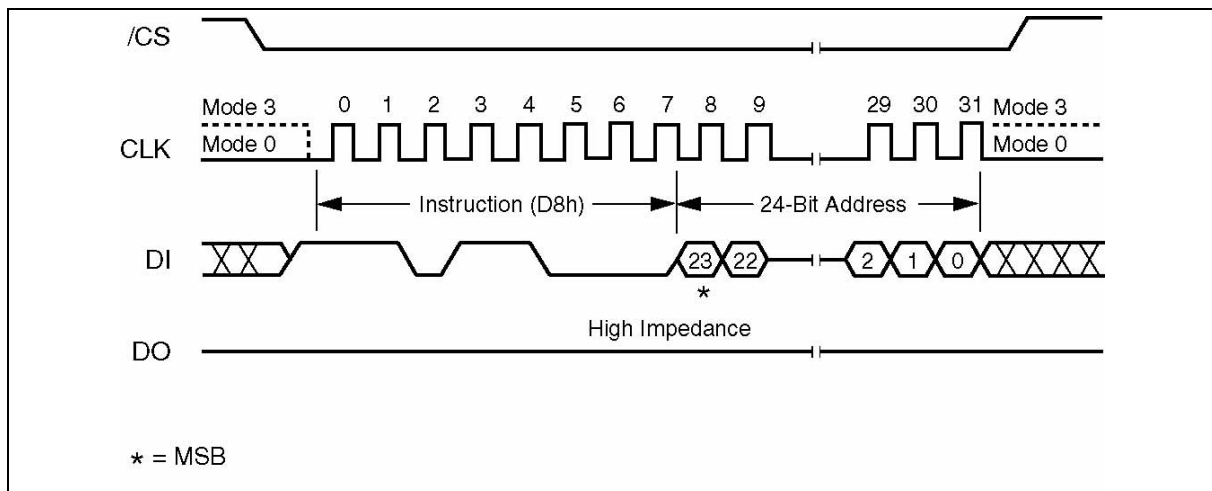

Figure 11. Sector Erase Instruction Sequence Diagram
**Please note that the W25B40 Bottom Boot version must use the last page address for sectors 2, 3, and 4 ( 003Fxx, 007Fxx and 00FFxx hex respectively).** The W25B40 Top Boot version must use the first page address for sectors 7, 8 and 9 (0700xx, 0780xx and 07C0xx hex respectively). All other sectors may use any page address within the sector. The W25B40A may use any page address within the sector for sector erase. The Sector Erase instruction sequence is shown in figure 11.